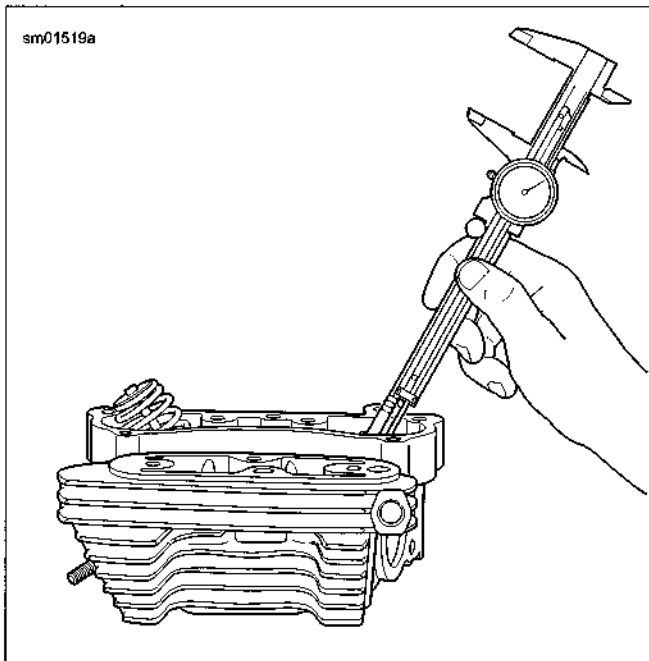

Figure 3-32. Measuring Valve Stem Protrusion
2. See Figure 3-32. Check valve seats for recession by measuring valve stem protrusion.